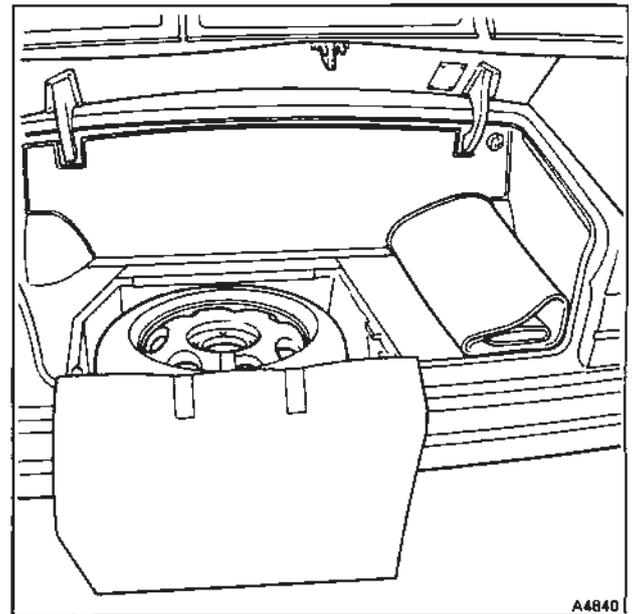

Fig. 3 Spare wheel location (Bentley Turbo S)
2. Fold the luggage compartment floor carpet from left to right (see fig. 3), to reveal the soundproofing